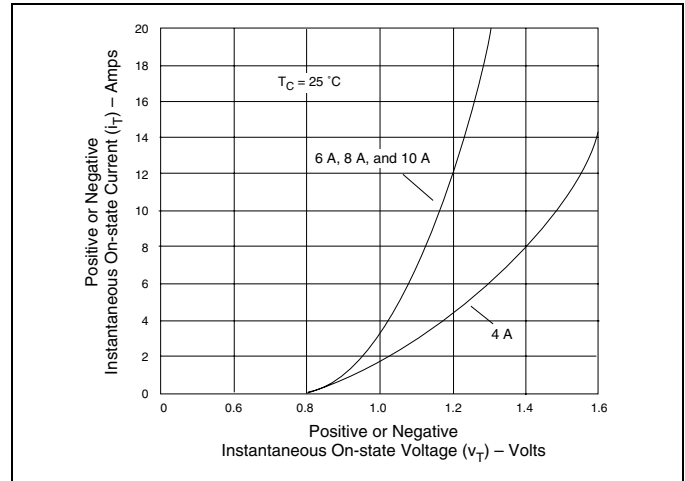
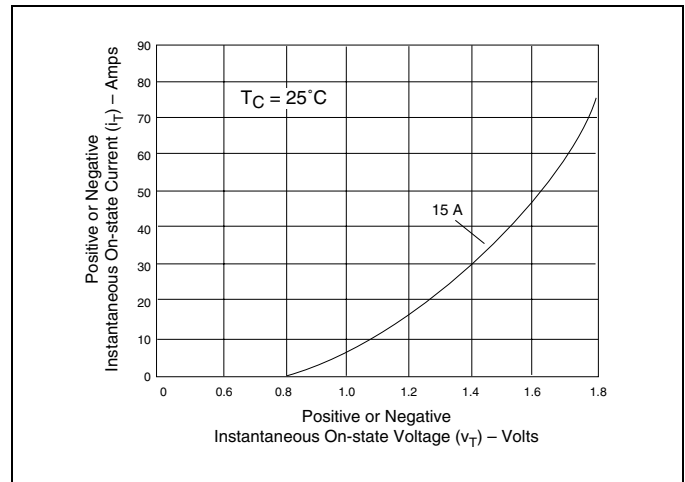

Figure E3.4 On-state Current versus On-state Voltage (Typical) (4 A to 10 A)
Figure E3.5 On-state Current versus On-state Voltage (Typical) (15 A)
- (3) See Figure E3.4 and Figure E3.5 for iT versus vT.